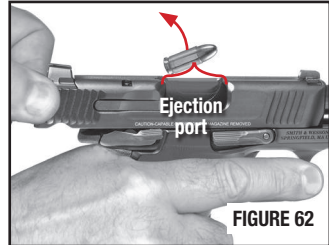

FIGURE 62
- With the barrel still pointing in a safe direction, and with your finger off the trigger and outside the trigger guard, grasp the serrated sides of the slide from the rear with the thumb and fingers (FIGURE 62) while holding the firearm in an upright position, briskly draw the slide fully rearward in order to extract any cartridge from the barrel chamber and clear it from the pistol.